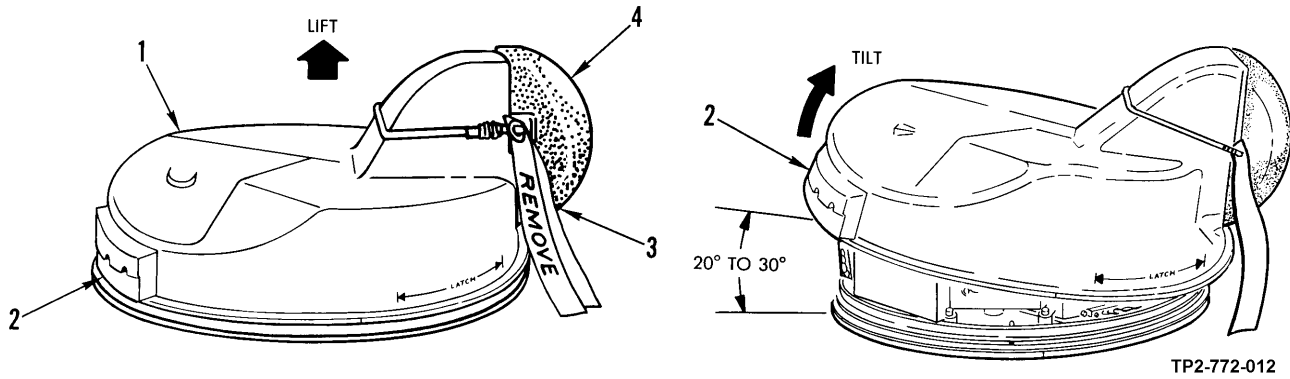

Figure 3-8. Shroud Assembly Tilting Prior to Removal from PNV5 NSA
Point (2) in figure 3-8 is bottom surface of shroud balance weight. Point (3) is surface just below bottom edge of shroud window.
- (a) Grasp shroud (1, figure 3-8) at points (2) and (3). Do not press against PNVNS window cover assembly (4).
- (c) Tilt point (2) approximately 20 to 30 degrees, as shown.